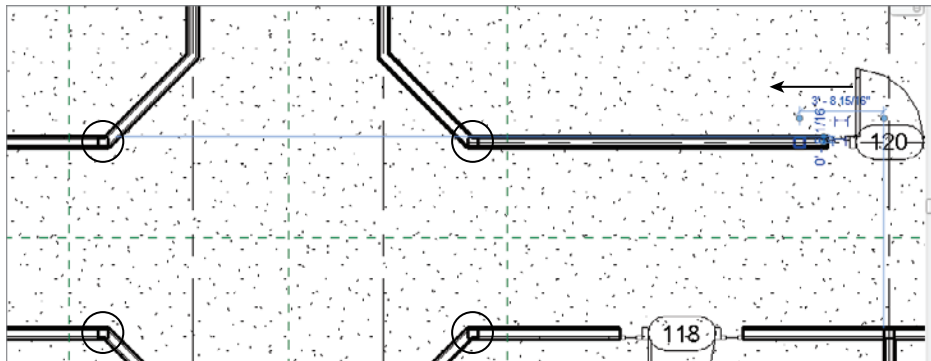

FIGURE 8.32 Making adjustments such as moving a column will happen quite a bit.
4. Repeat the same procedure for the other two columns (see Figure 8.32).
5. Zoom in to the door shown in Figure 8.32.